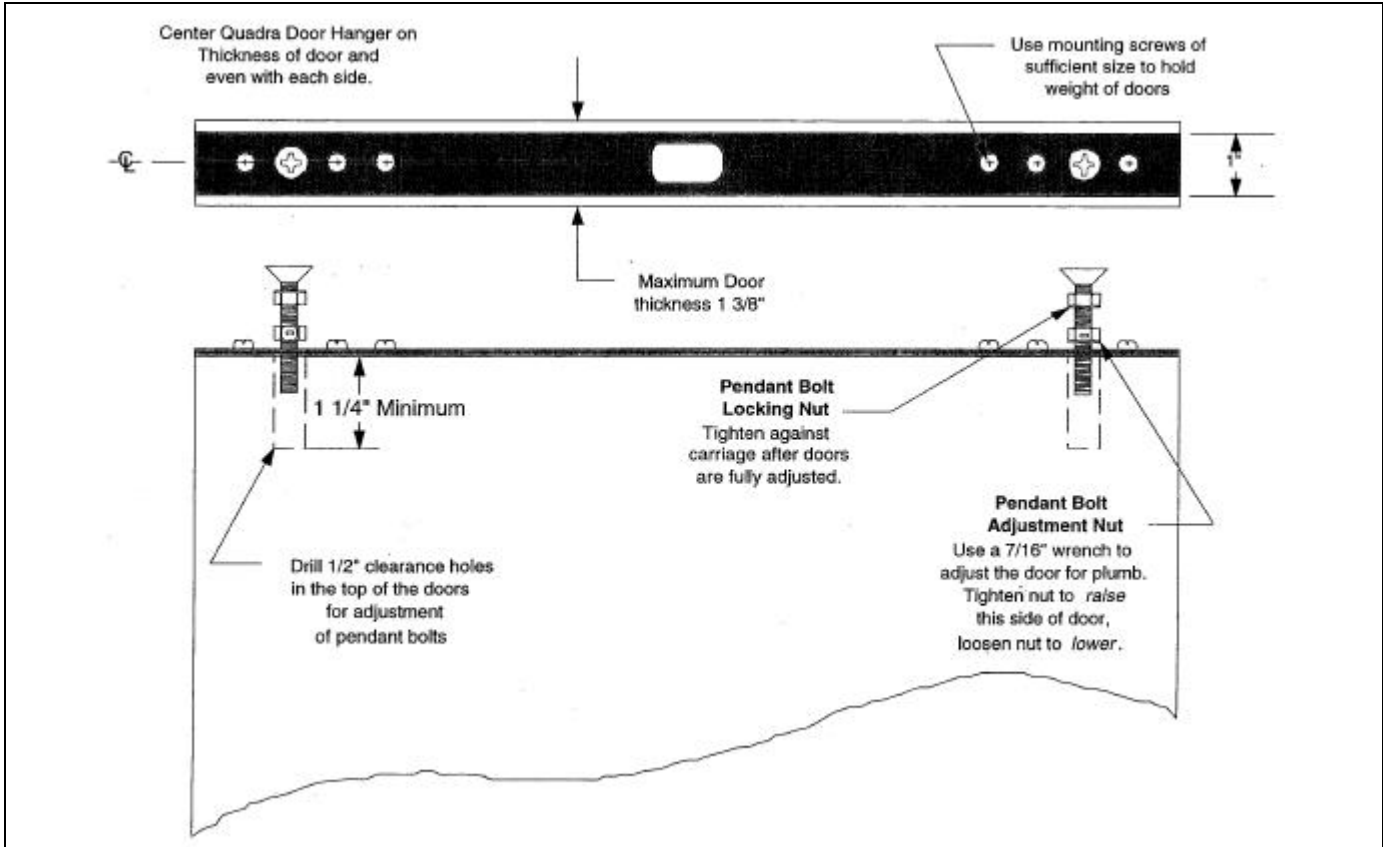

Figure 3
2. Mount the door hangers to the top of the 4 doors. After mounting, check to make sure that the pendant bolts can be freely adjusted in and out of the door hangers. (See figure 3)
plate wheel into the track area built into the base. Then tip the top of the door into the mechanism and engage the pendant bolts into the slots in the carriages. After hanging the doors spin the locking nut on the pendant bolts up so that the nut is finger tight against the bottom of the carriage. (See figure 3)